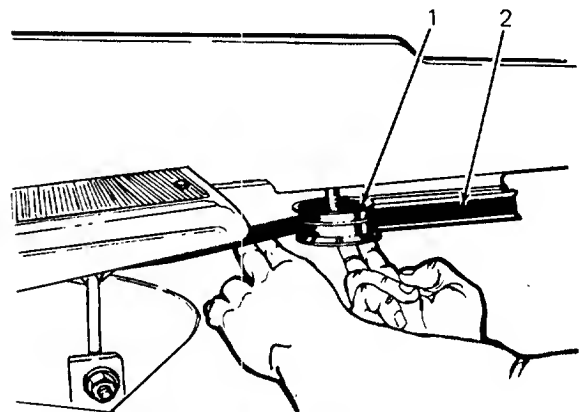

Figure 35
2. Pull idler pulley away from the tractor and then remove PTO belt from behind it. Release idler pulley. (Refer to Figure 35.)